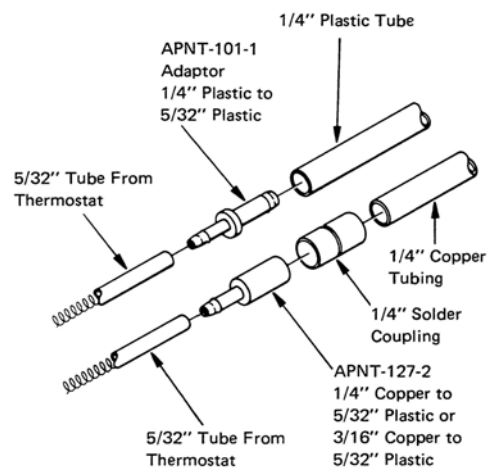

Figure-3
3. Slightly rotate the tubes back and forth, and push firmly on to the fittings (Figure-3).